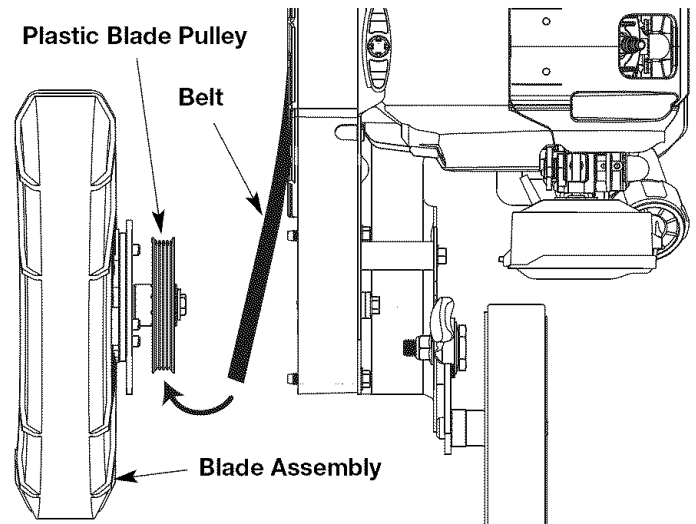

Fig. 41
14. Hold the blade assembly next to the belt housing and place the belt over the plastic blade pulley (Fig. 41).